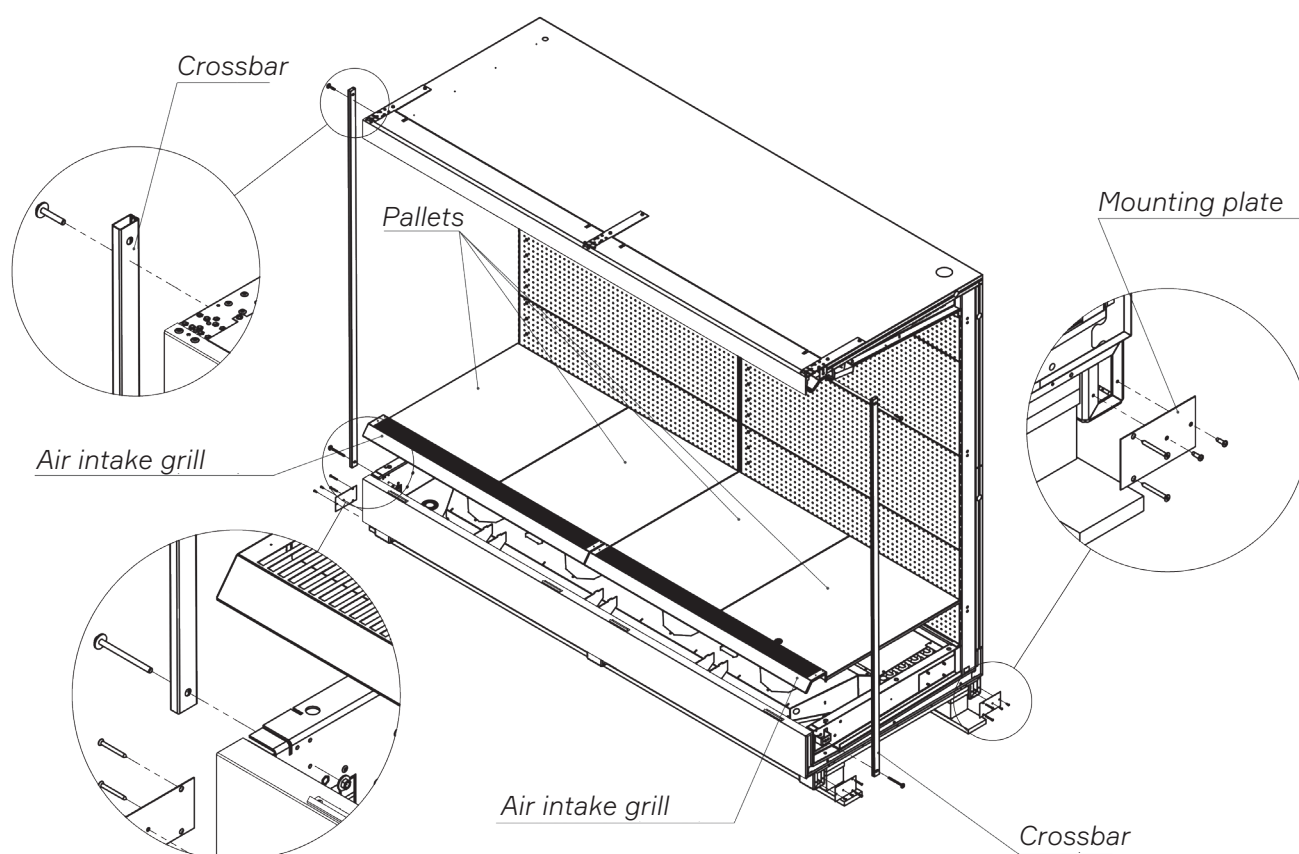

Fig. 11. Dismount the multideck fixture
- **dismount the multideck fixture (Fig. 11);**